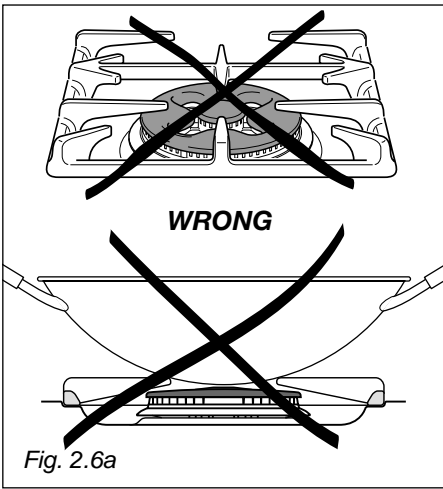

Fig. 2.6a
**CORRECT USE OF DUAL BURNERS** (Fig. 2.6a - 2.6b)
When using a WOK you need to place the supplied stand in the burner to avoid any faulty operation of the dual burner (Figs. 2.6a - 2.6b).